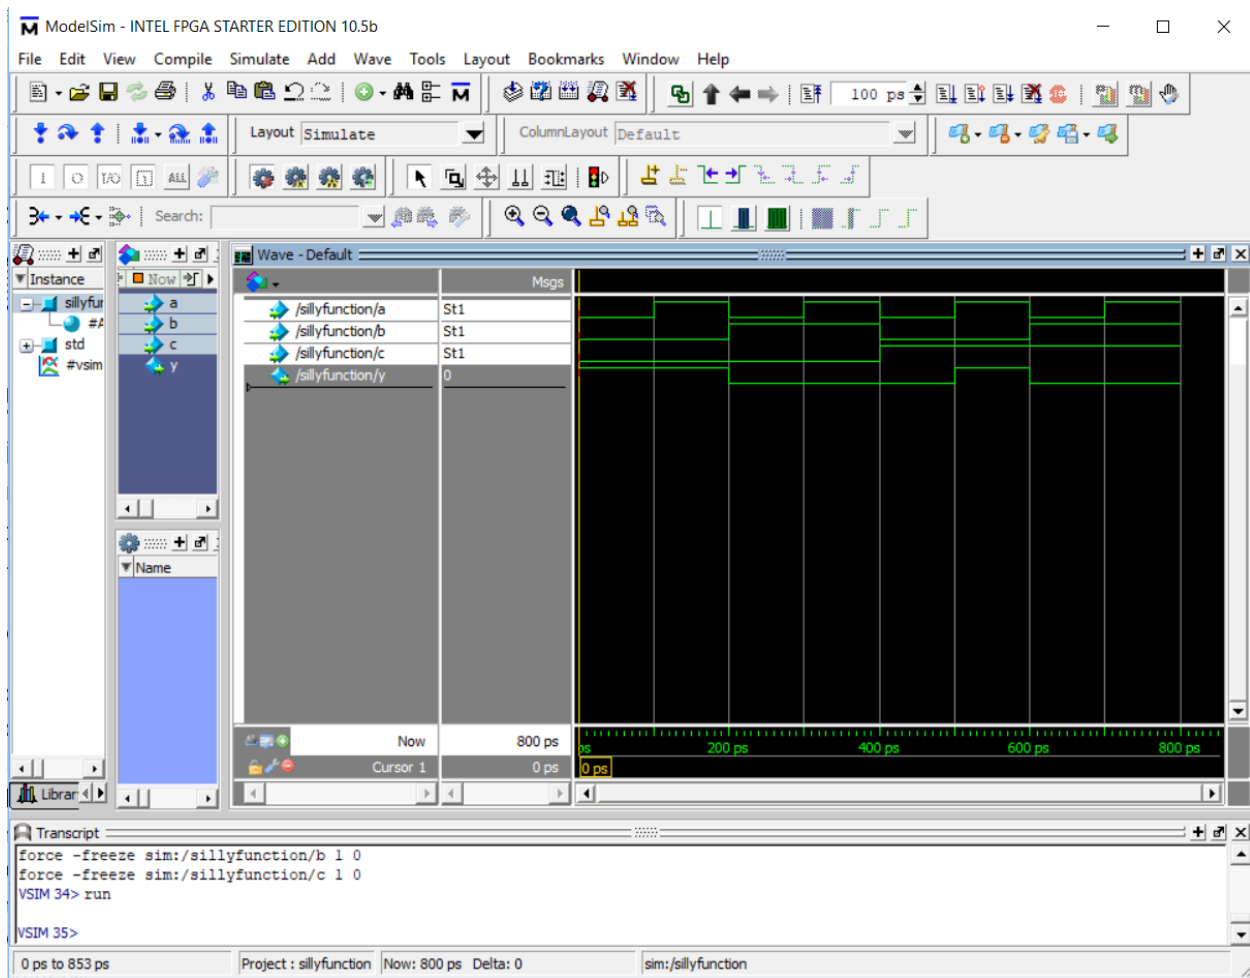

Figure 1.7: Example ModelSim simulation.
This is a hardware description language (HDL) file. Find and open the .v file in ModelSim and simulate your design. An Example of a ModelSim simulation is shown in figure 1.7. Note that this is not the simulation for this lab.
- ii. A screen capture of the ModelSim simulation like the one shown in Figure 1.7